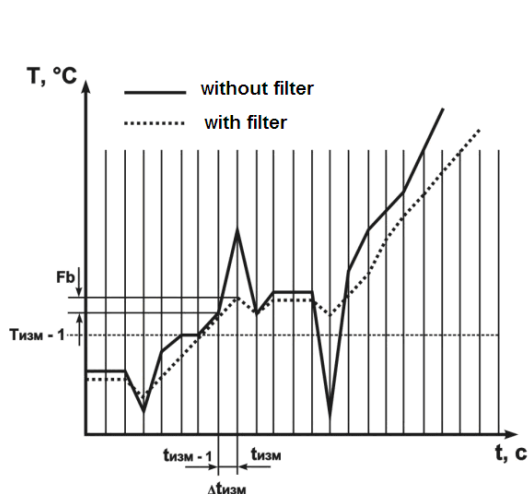

Figure 3.5
3.2.4.1 The digital filter band allows protecting the measurement route from single interference and is set in  $^{\circ}C$ . If the measured value  $T_{изм}$  is different from the previous  $T_{изм-1}$  by the value larger than  $Fb$  parameter value, the device assigns to it a value equal to  $(T_{изм} + Fb)$  (Figure 3.5). Thus the characteristic is smoothed out.
As seen in Figure 3.5, smaller band width of the filter leads to slowing down the device reaction to temperature change. That is why in case of low interference level or during operation with discontinuous temperatures it is recommended to increase the parameter value or switch off the filter band action by setting the  $Fb_1$  ( $Fb_2, Fb_3, Fb_4$ ) parameter value to 0.